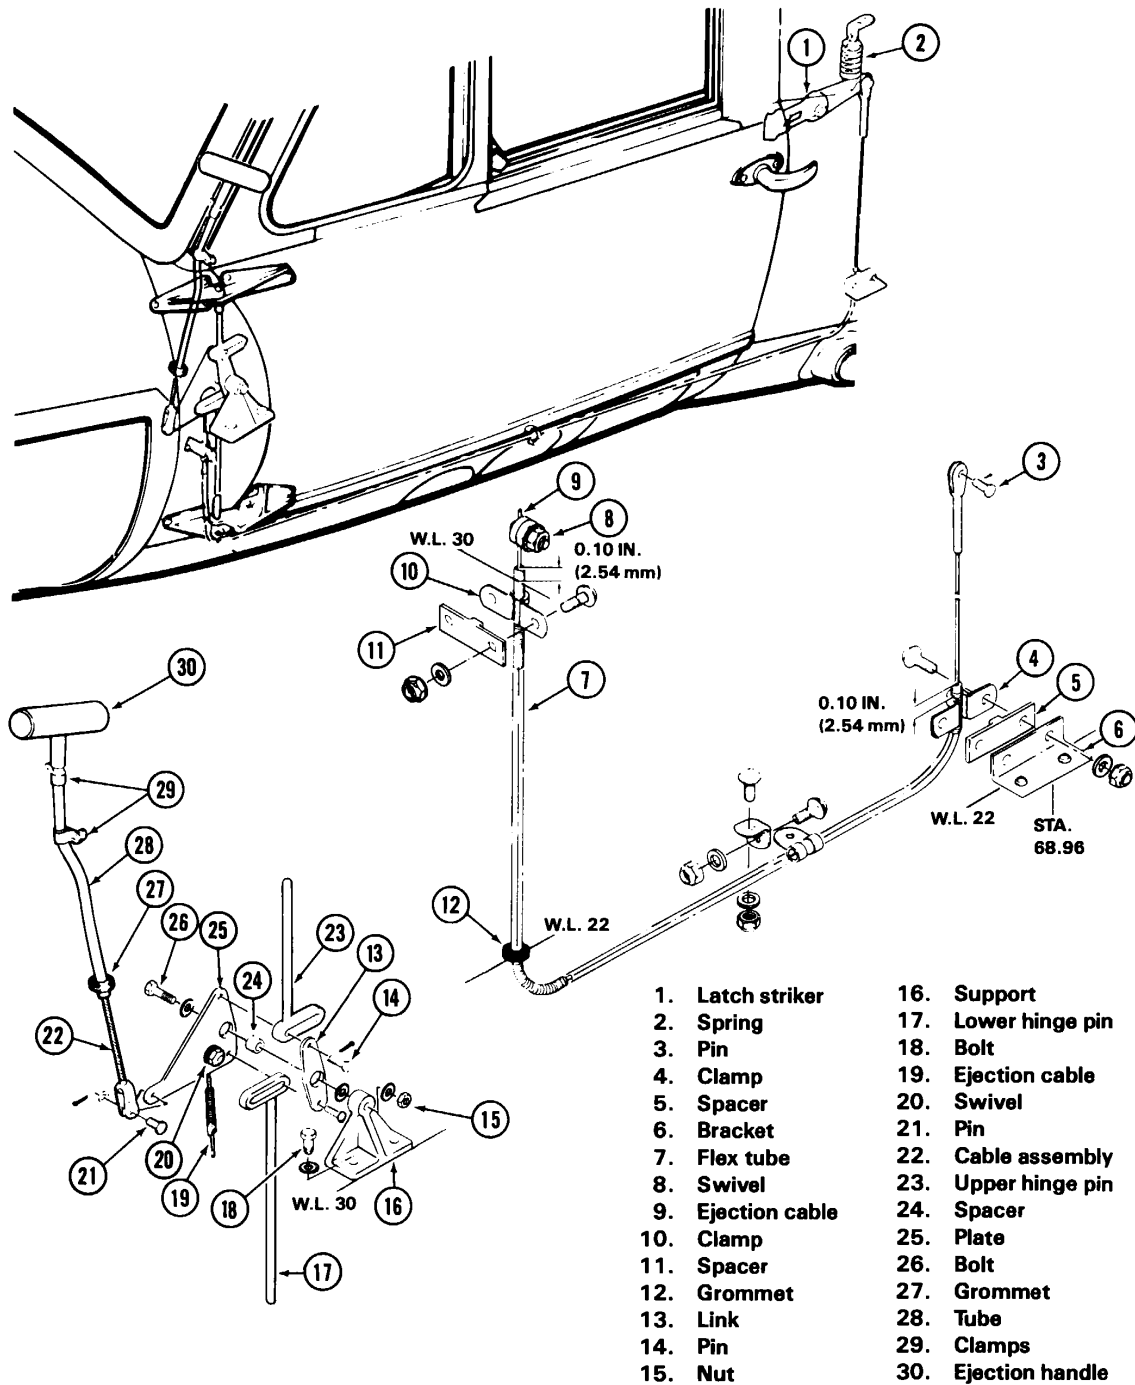

Figure 52-5. Crew Door Jettison Mechanism
52.2.2.3.2 Verify door is securely latched. The two upper and lower hinge pins (17 and 23, Figure 52-5) should be extended to engage strikers (1 and 7, Figure 52-4) at top of door opening with a clearance of 0.08 in. (2.03 mm) above top of each roller as illustrated. Latch (13) should fully engage latch striker (12).
52.2.2.3.5.2 Station a person inside and outside helicopter at door being checked. Pull EMERGENCY RELEASE handle. Hinge pins (17 and 23, Figure 52-5) should retract smoothly and release hinges. Striker (1) should pivot upward to release rear door latch.